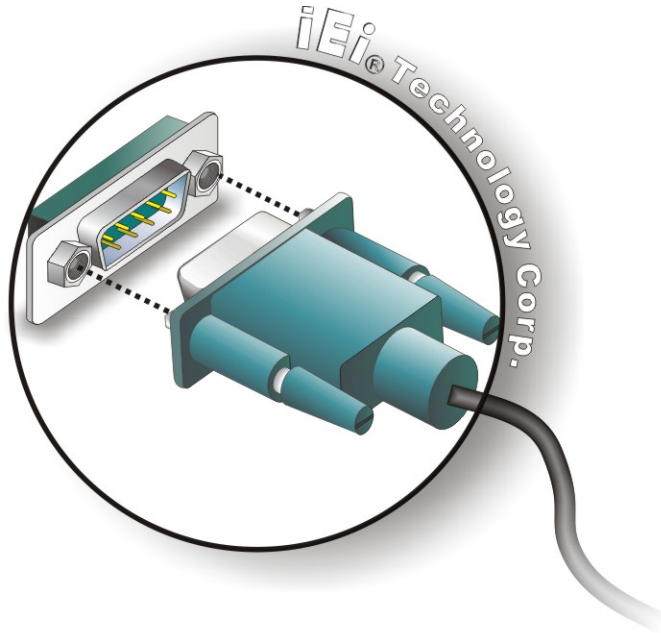

Figure 4-25: Serial Device Connector
Step 2: Insert the serial connector. Insert the DB-9 connector of a serial device into the DB-9 connector on the external peripheral interface. See Figure 4-25.